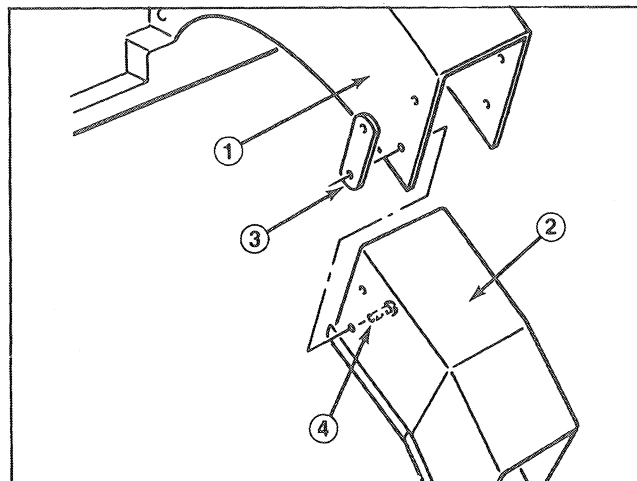

Figure 9
7. Install chute extension provided with kit. Attach chute extension to grass catcher hood with (2) nut plates, (4) button headscrews, using existing mounting (Fig. 9).